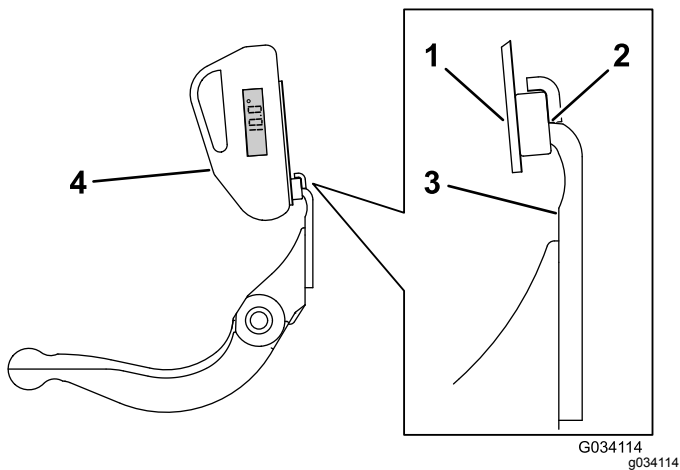

Figure 28
3. Place the angle-indicator mount on the edge of the bedknife so that the edge of the magnet is mated with the edge of the bedknife (Figure 28).
- Place the angle indicator on the mount as shown in Figure 28.